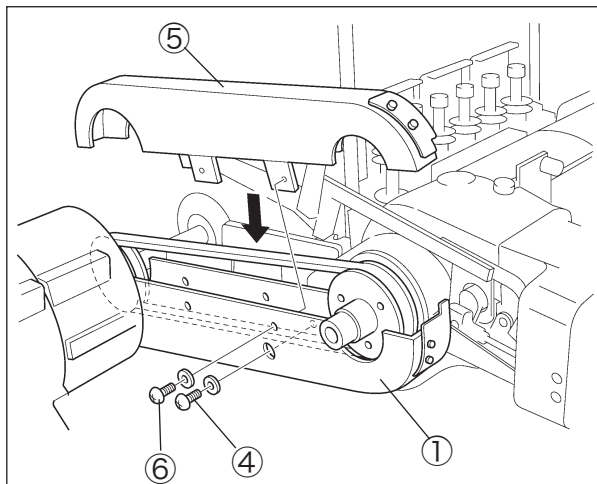
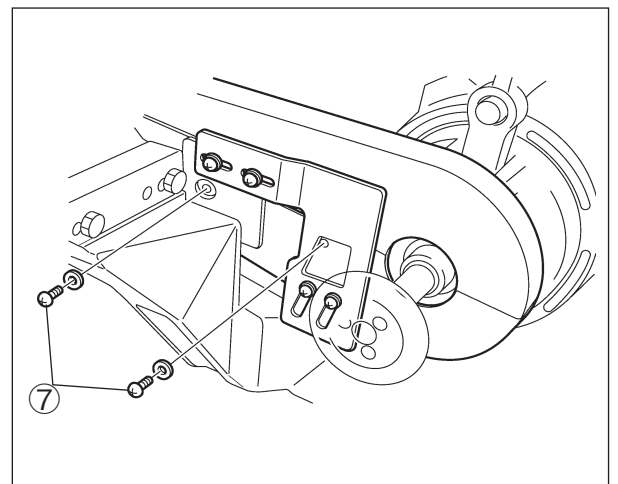

Fig.1-8
Fig.1-9
- (2) Fix the belt cover(lower) ① on the sewing machine supporting block with the screw ④ . (Fig. 1-8)
- (3) Set the belt cover(upper) ⑤ on the belt cover(lower) ① with four screws ⑥⑦ . (Fig. 1-8 and Fig. 1-9)